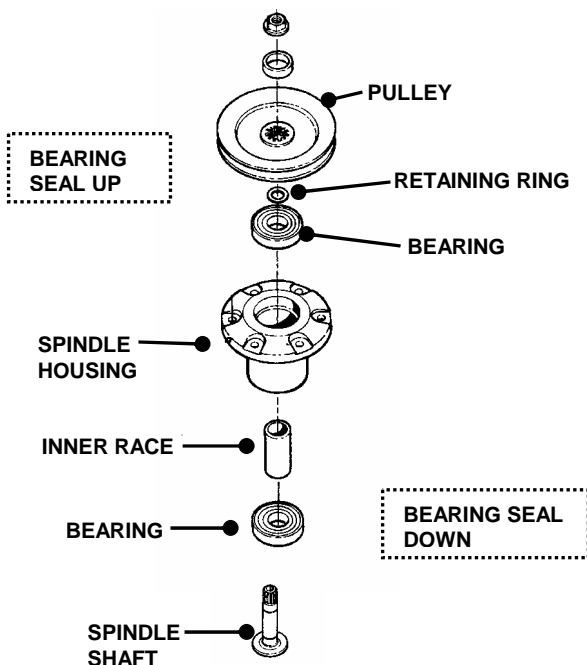

FIGURE 4.39
4. Top and bottom bearings are now removable. Pull out on inner race to slide bearing from housing. See Figure 4.39.